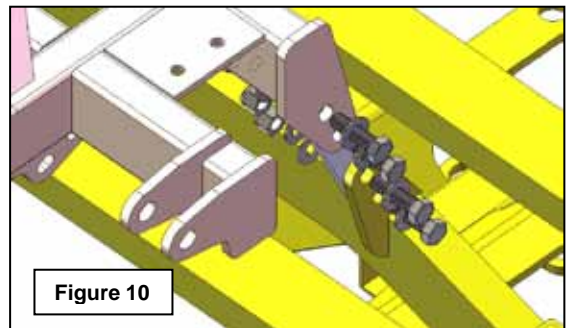

Figure 10
- a. Install left and right hanger plates as shown using supplied hardware. Hanger plates fit inboard of body frame and shock mount. Body frame to hang down on the bottom of the slots. Torque to 45 lb.ft. Figure 10